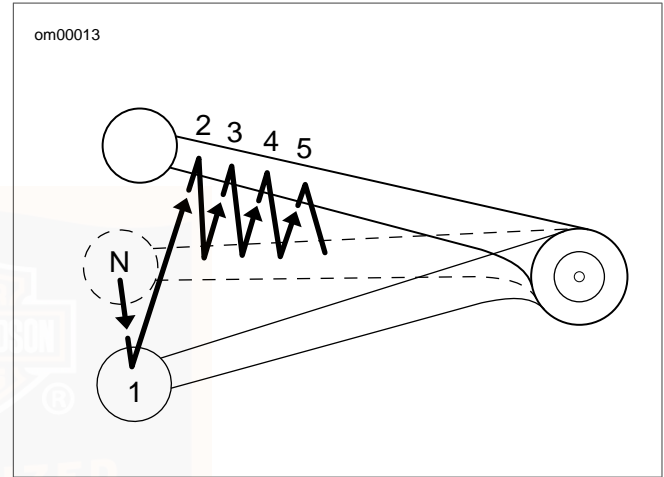

Figure 44. Shifting Sequence: Upshift
3. See Figure 44. Lift the gear shift lever up to the end of its travel and release.